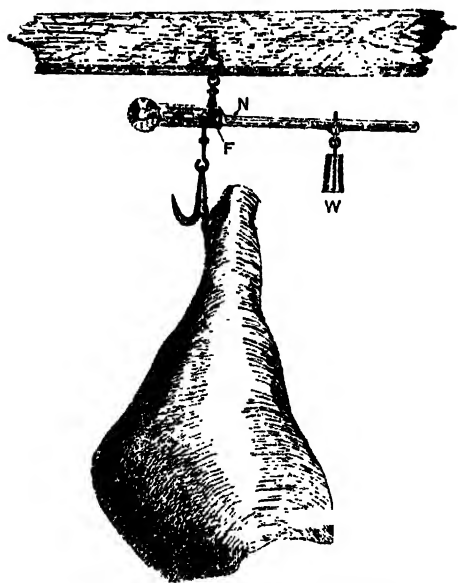

FIG. 84.—A butcher's steelyard.
The opposite effect, that of converting a large force into a smaller one, is not so often needed; it is chiefly required in weighing machines. The simplest weighing-machine of this kind is the steelyard. Plate IX shows a very beautiful Roman one, some 2,000 years old, and Fig. 84 shows a modern one in use. The weight C is made so that when there is no load on the hook and the weight W is at the o mark (N) the two halves of the steel-